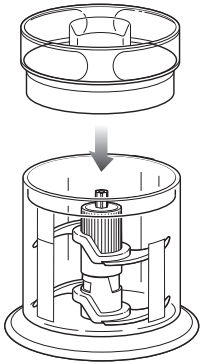

Fig. 3
- 5 Place the pitcher splashguard onto the top of the Ninja Master Prep Professional pitcher. (fig. 3)
- 7** Place the splashguard on the bowl. **(fig. 3)**